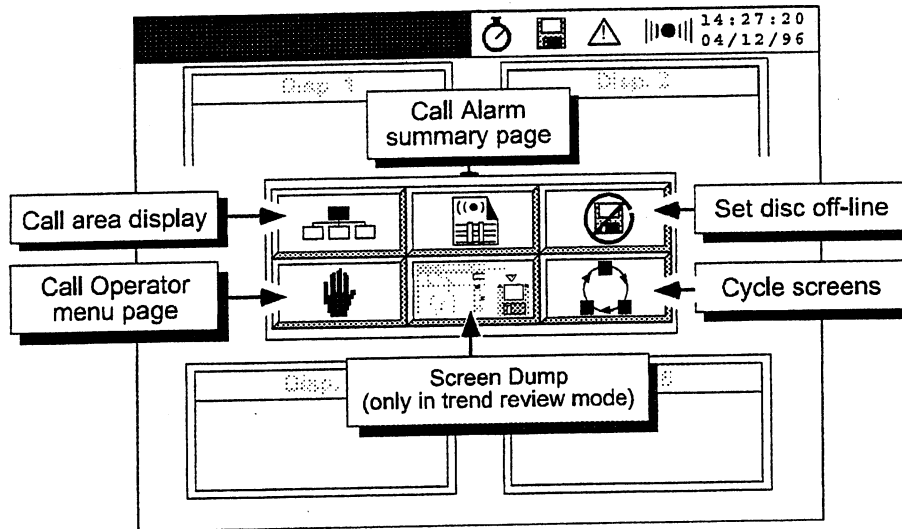

Figure 2.1.2 Keypad functions
- Keypad** Contains a number of keys to help find our way through the displays. Figure 2.1.2 shows what happens if you press this area.